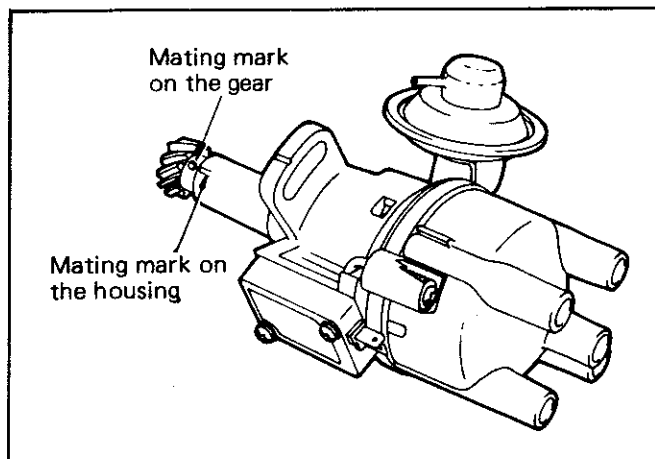

Fig. 5—Installing distributor
(1) Ensure that the crankshaft is positioned at T.D.C. with No. 1 piston on compression stroke.
(2) Align the mating mark (line) on the distributor housing with the mating mark (dot) on the distributor driven gear (see Fig. 5.)